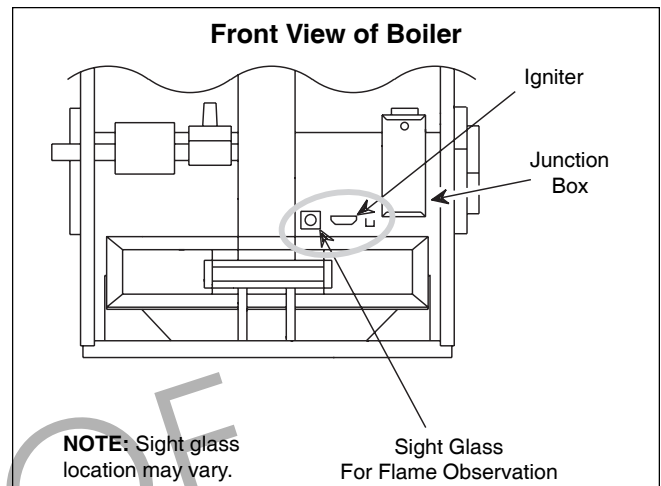

Figure 12. Periodic Flame Observation.
- b. The ignition control turns on the combustion fan. After about a 15 second pre-ignition purge, while the fan clears the combustion chamber, the igniter is turned on. The igniter takes about 25 seconds to heat up. You can see a glow through the view port (see Figure 12).
ignites. You can see the burner flame through the view port (see Figure 12).